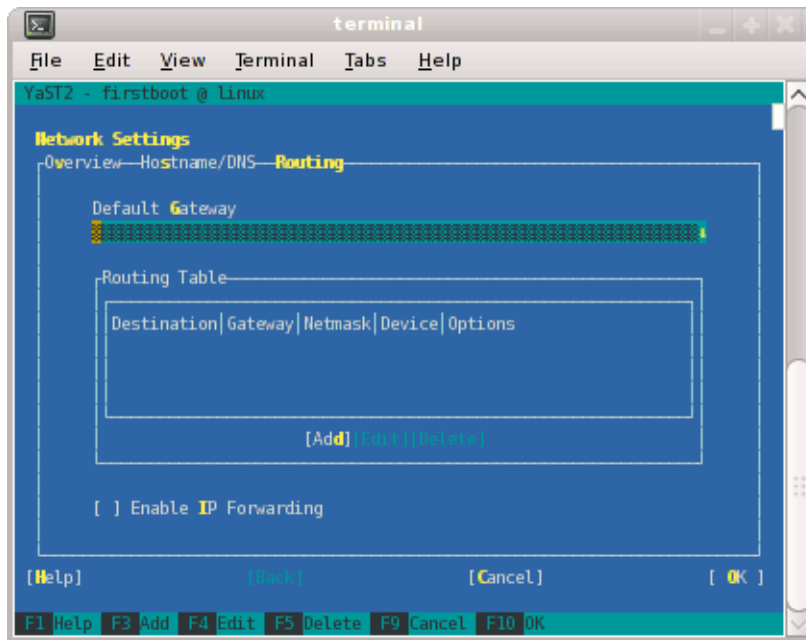

Figure 2-15 Network Settings Routing Screen
8. Select **Routing** shown in Figure 2-15 on page 50 and enter your house/public network default router information there. Now you can select **OK**.